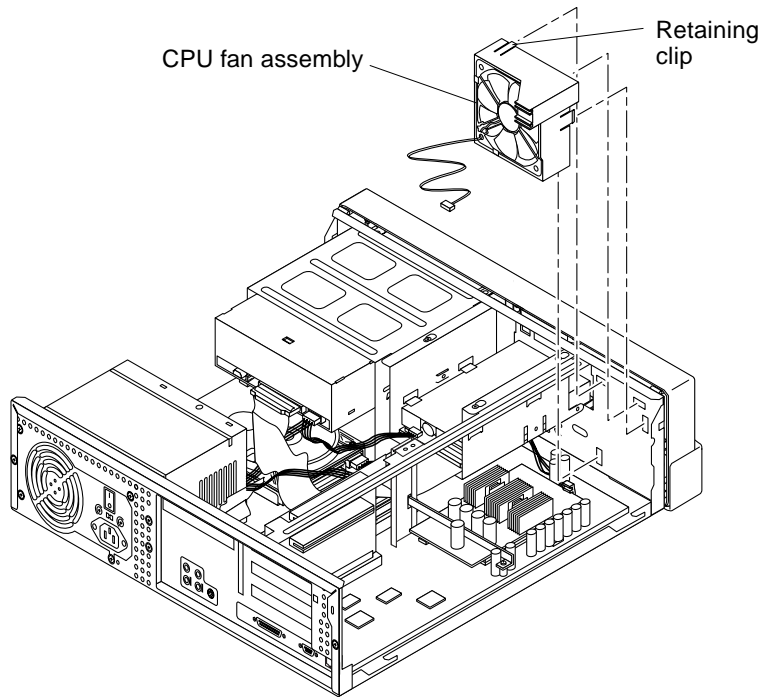

FIGURE 6-7 Removing and Replacing the CPU Fan Assembly
2. Remove the CPU fan assembly as follows (FIGURE 6-7):
1. Replace the CPU fan assembly as follows (FIGURE 6-7):